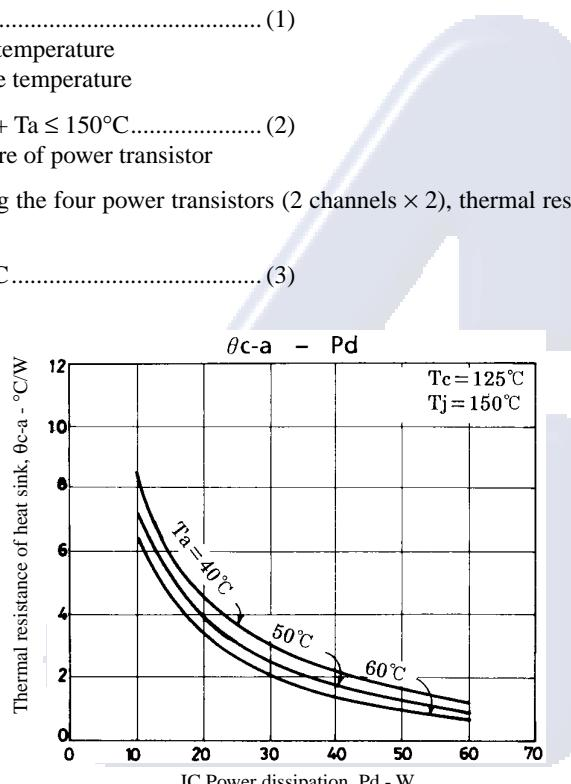

Figure 3. STK4122II  $\theta_{c-a} - P_d$
Figure 3 shows the relation between  $P_d$  and  $\theta_{c-a}$  given from (1) and (3) with  $T_a$  as a parameter.
The thermal resistance of a heat sink is obtained from Figure 3.